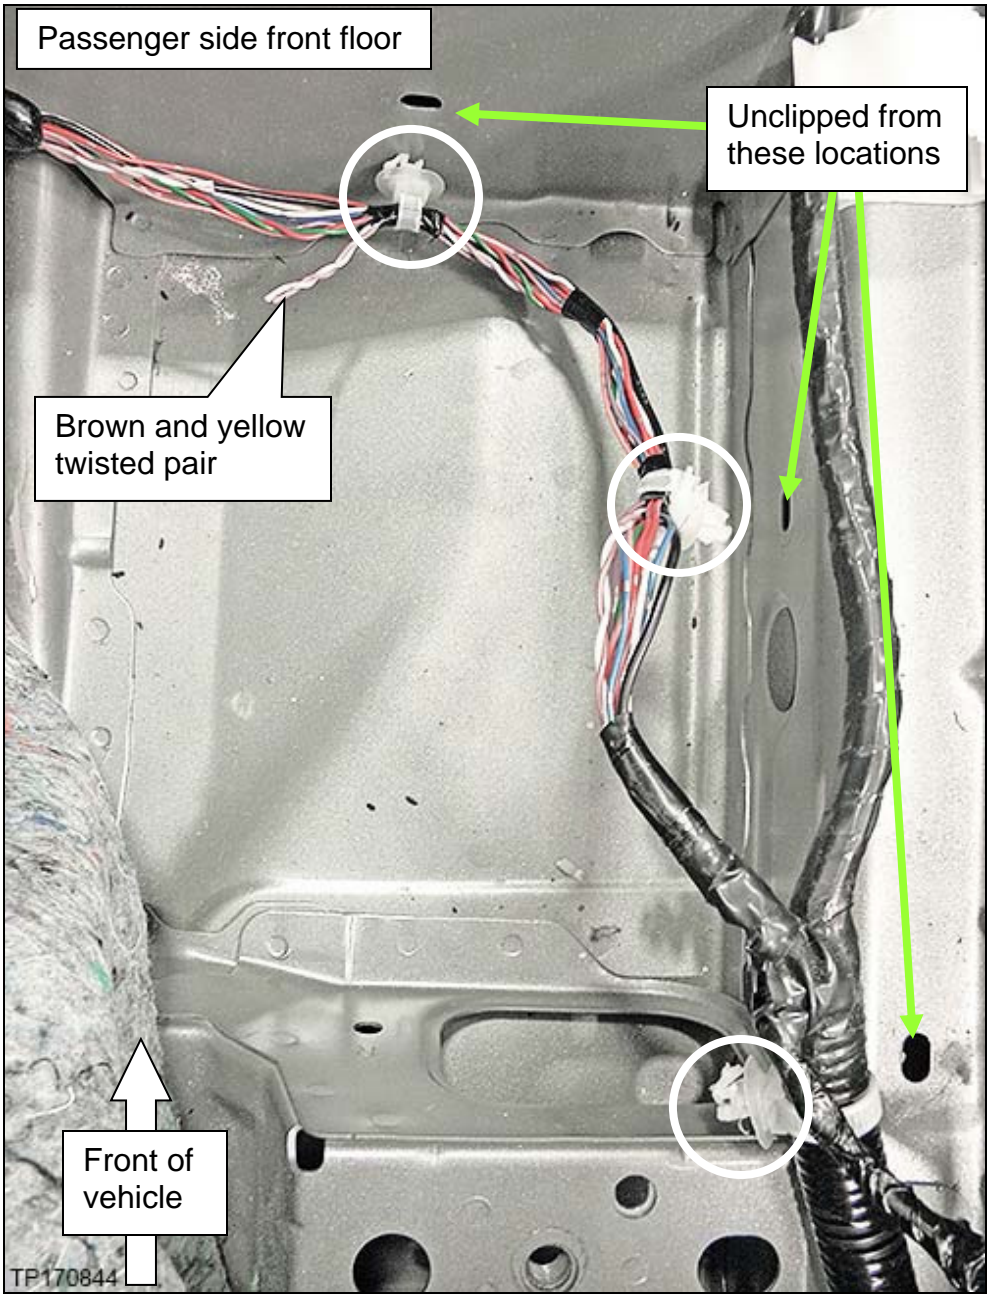

Figure 23
17. Unclip the three harness straps as shown in Figure 23 from passenger side front floor.